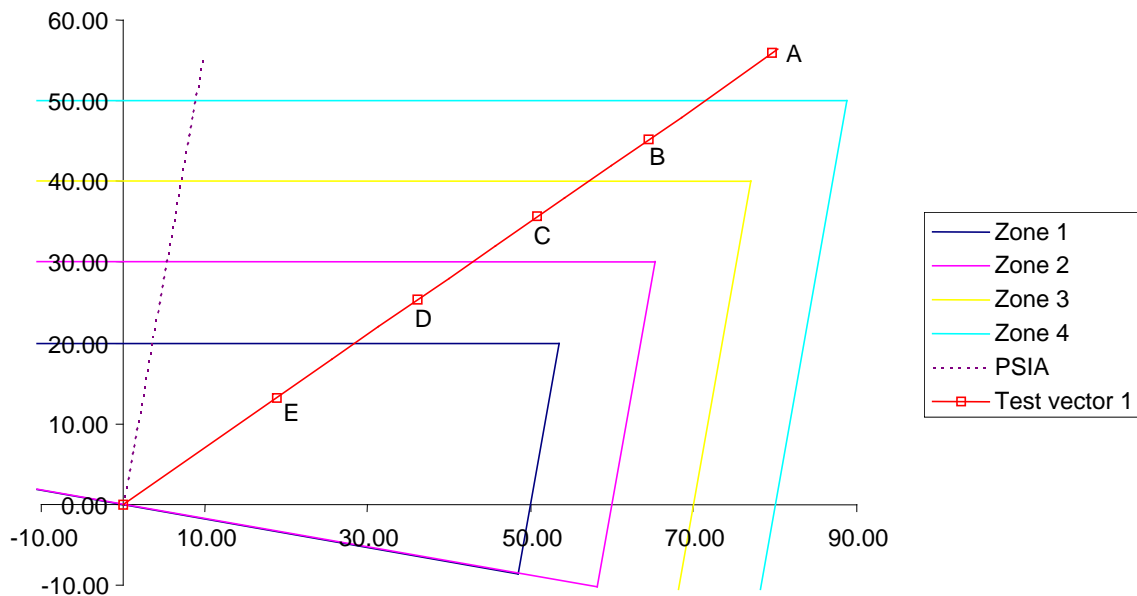

Figure 8. Test points for timing tests
To test the timing of each zone of operation, test points can be picked in each zone of operation as shown in figure 8.
- Type in a new voltage value on the DVS3 that should cause the relay to trip in the outer zone (point B, zone 4 on figure 8). The DVS3 timer will display the zone 4 trip time.
Figure 8 shows a power swing test vector in green. A starting impedance is calculated that is outside the zone under test and the  $\Delta R$   $\Delta X$  zone using a current of  $I_n$  or  $2I_n$ . An ending impedance is then calculated that would usually trip the relay (inside the zone under test, but outside any inner zones).